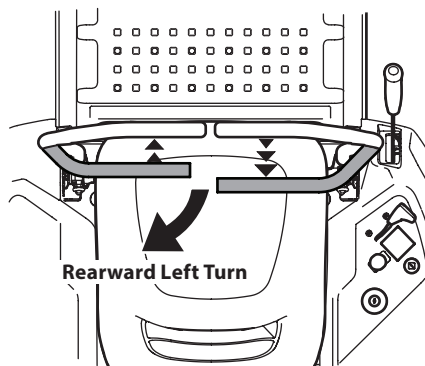

Figure 3-8
- To turn to the left while traveling in reverse, move the left drive control lever forward of the right drive control lever. See Figure 3-8.